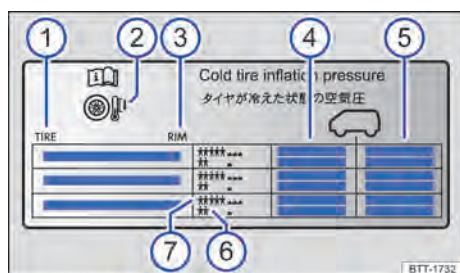

Fig. 216 Information on the tyre pressure sticker.
- Always adjust the tyre pressure to the load level → Fig. 216.